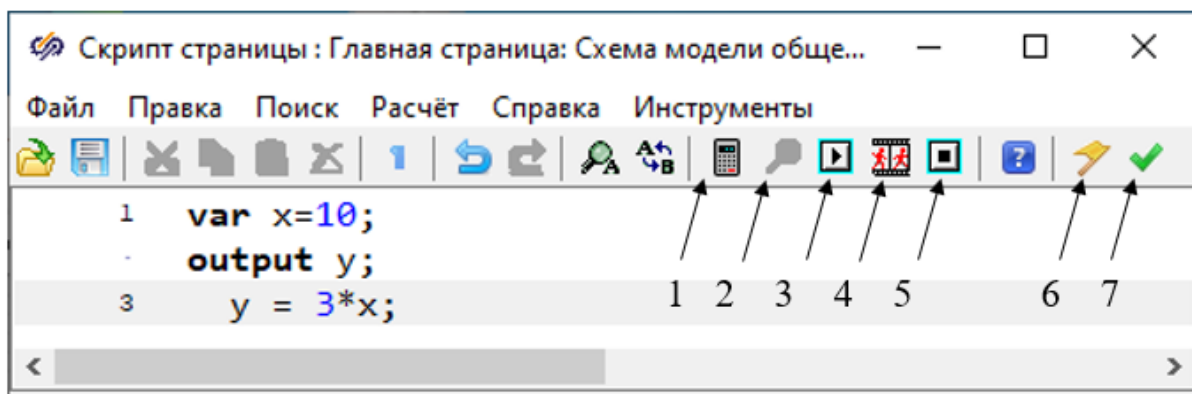

Figure 5
Type the script text shown in the Figure 5 in the input field. Click View Script Variables (1), or View the value of a pre-selected variable (2), or Run Script (3).
You can run a step-by-step debugging of the script by pressing button 4 , and finish debugging it by pressing button 5  (Figure 5). After making changes to the program, click the Apply Changes button 6  or the Apply Changes button and close the editing window 7  (Figure 5).